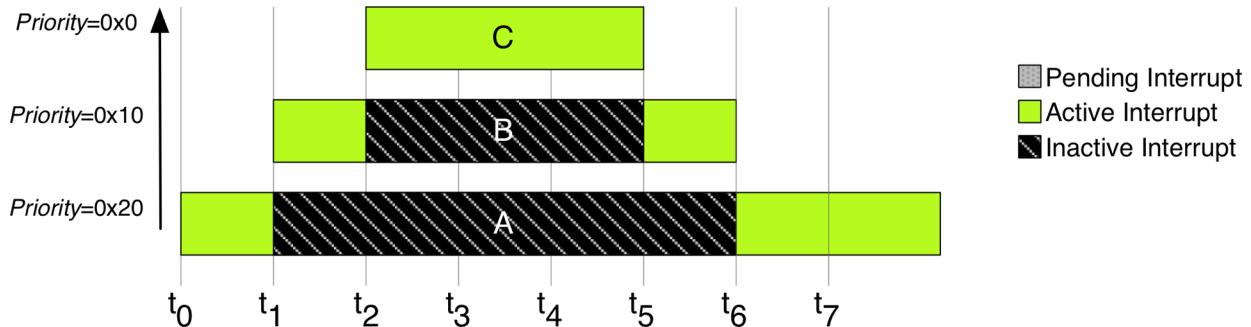

Figure 16: Preemption of interrupts in case of concurrent execution
**Figure 16** shows an example of interrupt preemption. A is an IRQ with the lowest priority that fires at time  $t_0$ . The ISR starts the execution but the IRQ B, which has a higher priority (lower priority level), fires at time  $t_1$  and the execution of A ISR is stopped. After a while, C IRQ fires at time  $t_2$  and the B ISR is stopped and the C ISR starts execution. When this finishes, the execution of B ISR is resumed until it finishes. When this happens, the execution of A ISR is resumed. This “nested” mechanism induced by interrupt priorities leads to the name of the NVIC controller, which is *Nested Vectored Interrupt Controller*.